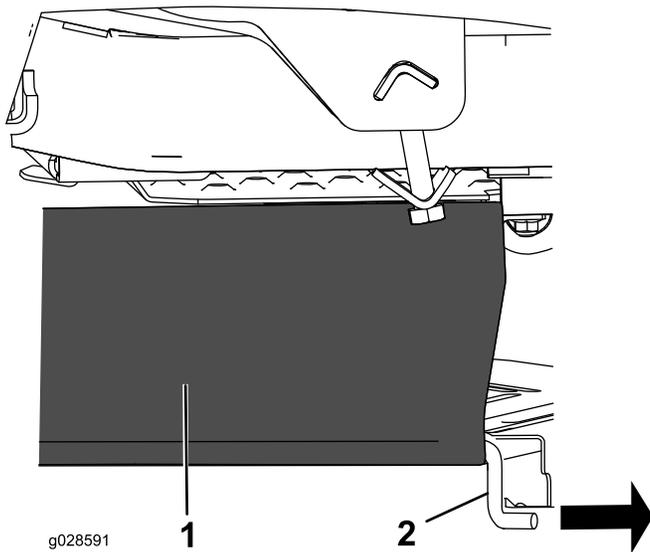

Figure 7
1. Slide the existing support rod out of the mower-deck curtain (Figure 7); retain the rod for future use of the machine without the bagger.